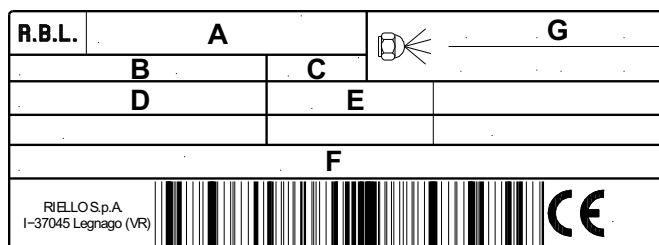

Fig. 8
- the model (A)(Fig. 8) and type of burner (B);
- the year of manufacture, in cryptographic form (C);
- the serial number (D);
- the data for electrical supply and the protection level (E);
- the absorbed electrical power (F);
- the types of gas used and the relative supply pressures (G);
- the data of the burner's minimum and maximum output possibilities (H) (see Firing rate).